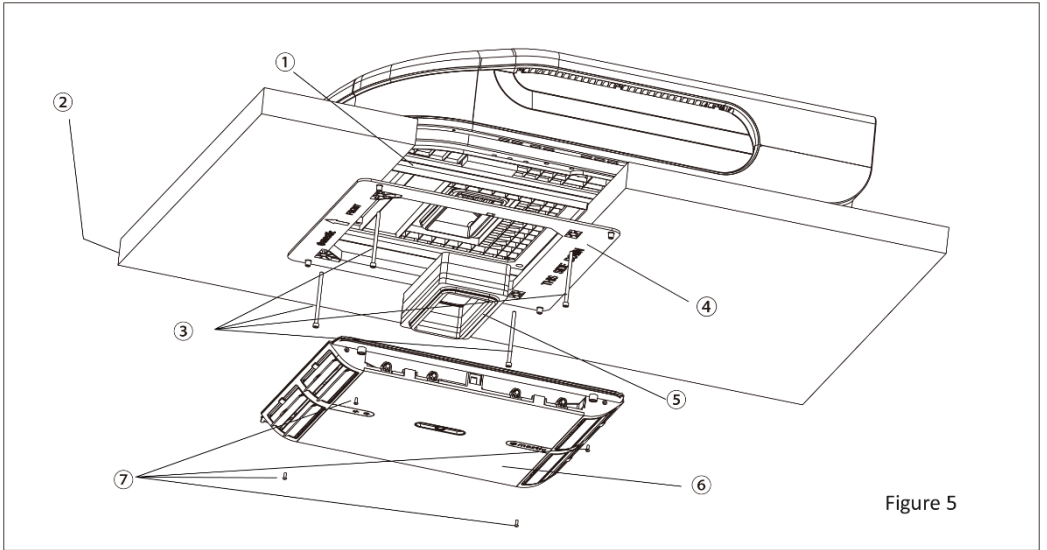

Figure 5
3. The mounting brackets should overlap with the surface of the vehicle ceiling. Tighten the bolts in a cross pattern and make sure the screw holes align with the holes in the adapter. Maximum torque on the bolts (3) is 1,8Nm (See figure 5).
2. Carry the outdoor unit to the vehicle's top and align with the openings on the vehicle's top. Use 2 sets of mounting plate assembly and 4 screw bolts to mount the outdoor unit (See fig. 5).
6. Install the foam assembly on the air duct assembly. Use 4 screw bolts to fix the air duct assembly onto the mounting plate. After connecting the outdoor unit with indoor unit, check whether the foam assembly has come loose (See fig.5).